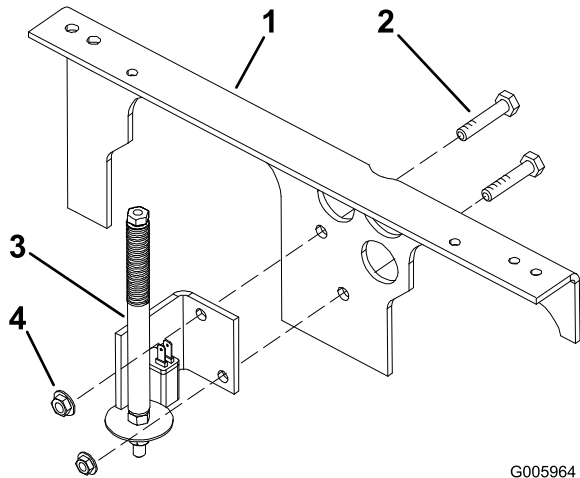
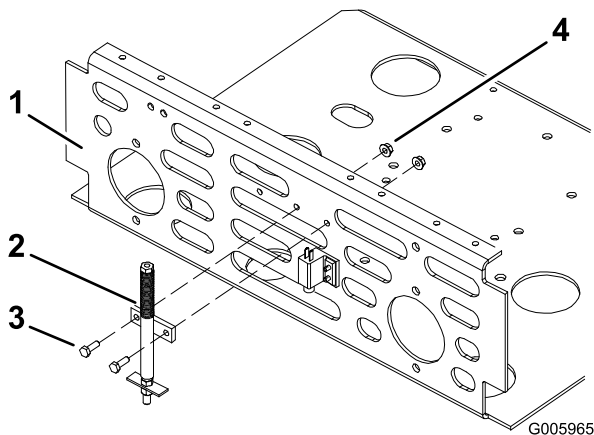

Figure 1
Figure 2
4. Disconnect the electrical wire harness from the existing seat switch assembly by pulling firmly on the connector. Use Figure 1 for Z100/400 series mowers and Figure 2 for Z200/500 series mowers.
5. Remove the seat switch assembly by removing the two bolts and nuts that secure the switch to the frame. Retain the fasteners for later use (Figure 1 or Figure 2).
Note: On the Z200/500 series only the actuator is replaced and fasteners provided in the assembly can be used (Figure 2).